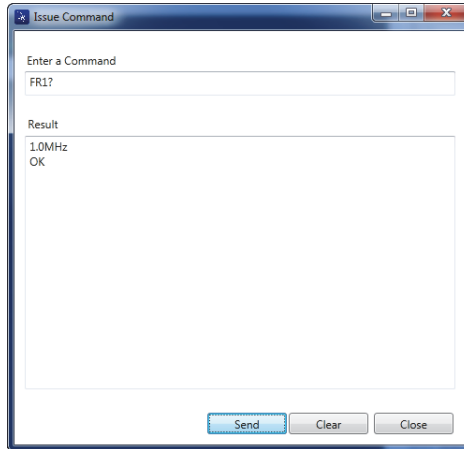

Figure 7-13 The Issue Command dialog box
The **Issue Command** dialog box opens (Figure 7-13 on page 189).
2. In the **Issue Command** dialog box, enter a command (see Figure 7-13 on page 189).
3. In the **Issue Command** dialog box, click **Send** (see Figure 7-13 on page 189).